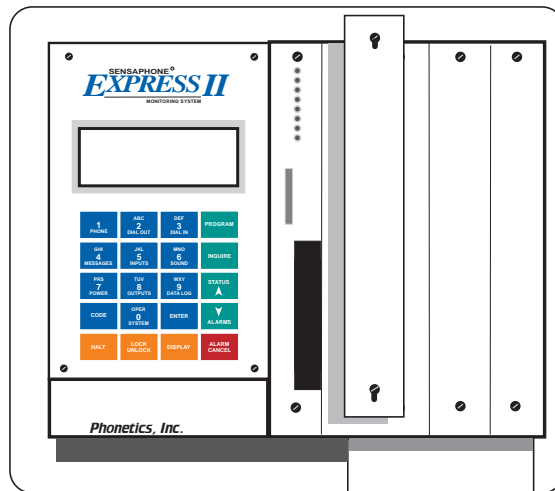

Figure 10: Remove blank plate
2. Working from left to right, loosen the thumbscrews and remove the blank plate of the first unused slot. See Figure 10 below.